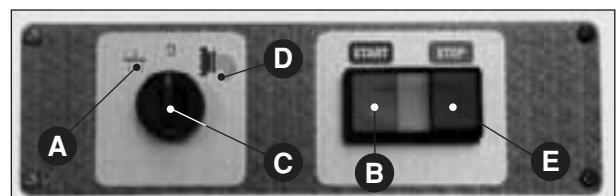

Fig. 11
- stop the machine by switching the selector to the "0" position (**Fig. 11 C**) and then turn it on the kneading position **III** (**Fig. 11 A**) for 10-15 seconds so that the pressure on the drawplate, caused by the product itself, is eliminated;
- switch the selector to "0" (**Fig. 11 C**) or push the Stop button (**Fig. 11 E**);
- In the "0" position (Fig. 11 C) all the elements of the machine have to stop; in the drawplate position (Fig. 11 D) the mixer turns in one direction; the Archimedean screw has to turn in the same direction (check from the small holes of the cover); in the mixing position (Fig. 11 A) all the organs have to turn the other way.